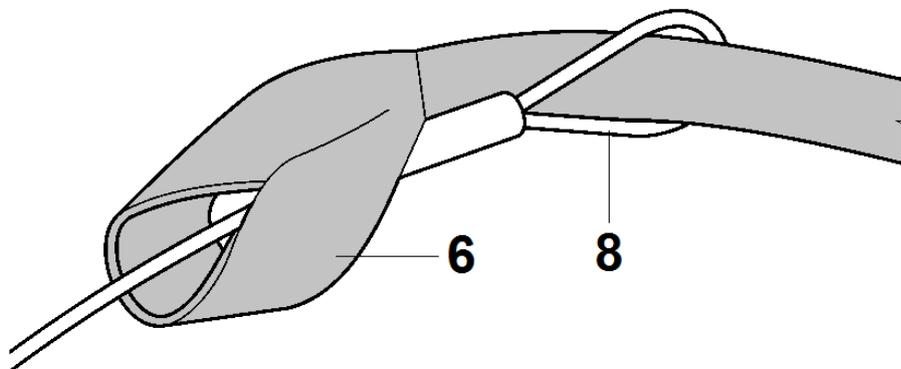

Fig. 4 Strap Pass through Cable
- (o) Pass stabilizing strap (6) through cable (8) and pull tight (see Fig 4 and Fig. 5).